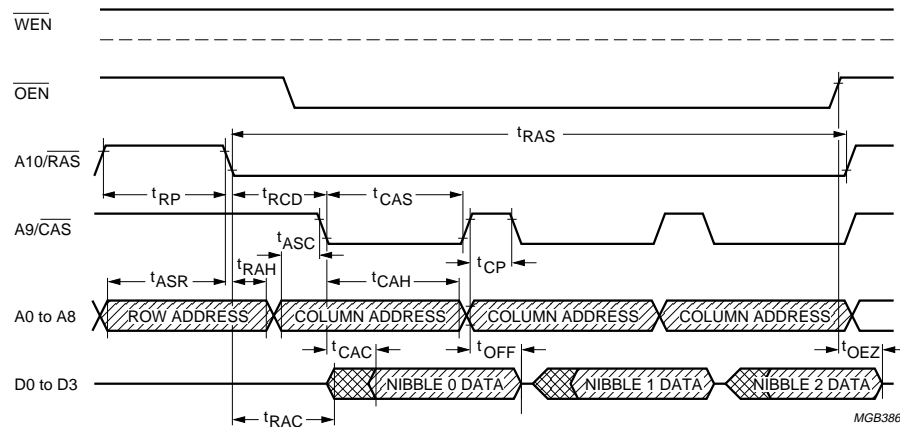
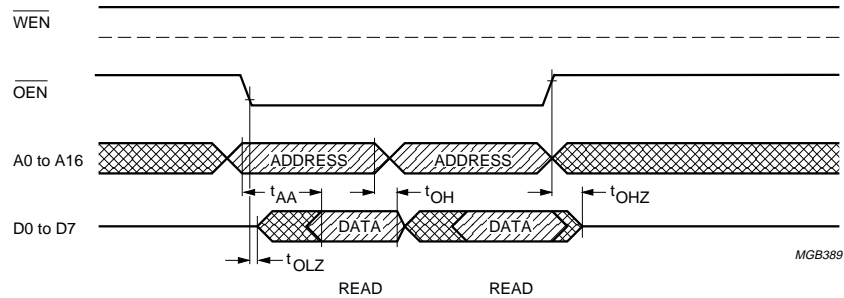

Fig.10 DRAM read cycle timing.
Fig.13 Fast SRAM read cycle timing.
The SAA3323 has been designed to operate with DRAMs and SRAMs. Suitable DRAMs are  $64K \times 4$ -bit or  $256K \times 4$ -bit configurations operating in page mode, with an access time of 80 to 100 ns. The timing for read, write and refresh cycles for DRAMs is shown in Figs 10 to 12. The timing for SRAMs is shown in Figs 13 to 19.
**Table 16** Timing values for Figs 10 to 12.
**Table 17** Timing values for Figs 13 to 17.